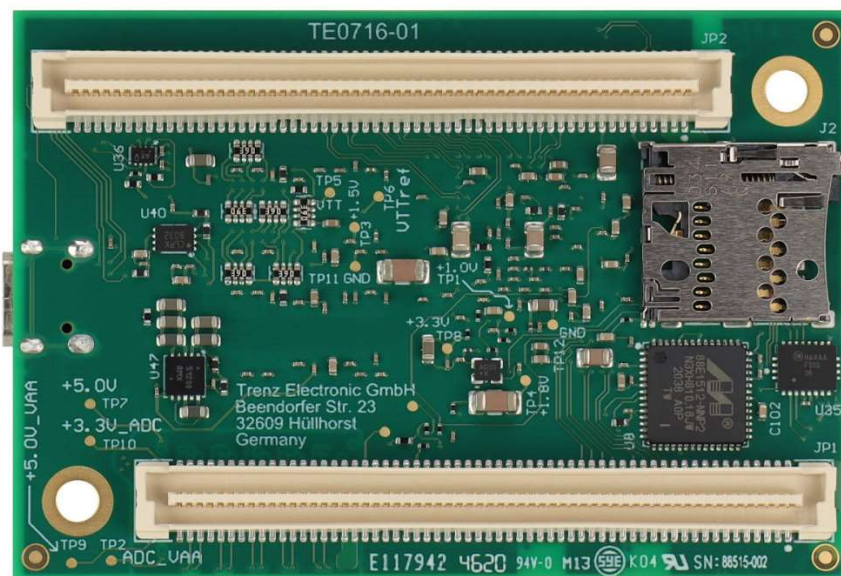

Figure 4 Bottom of UCB
- b. Figure 4 shows the bottom of the UCB